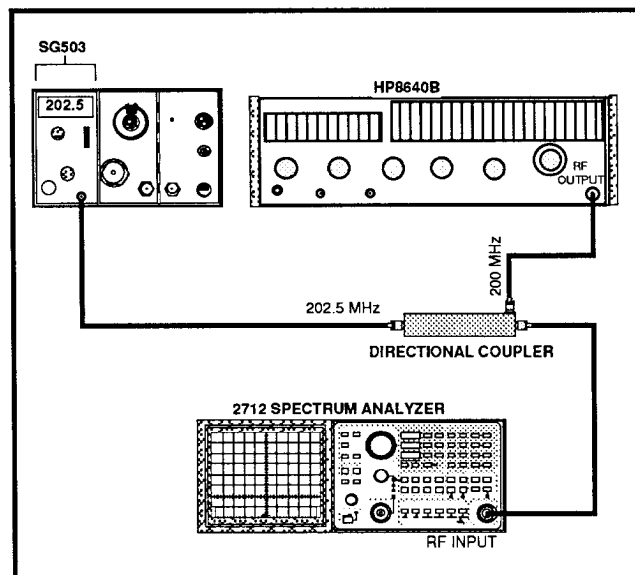

Figure 3-3. 1dB Compression Point Test
- Connect the test equipment as shown in Figure 3-3.